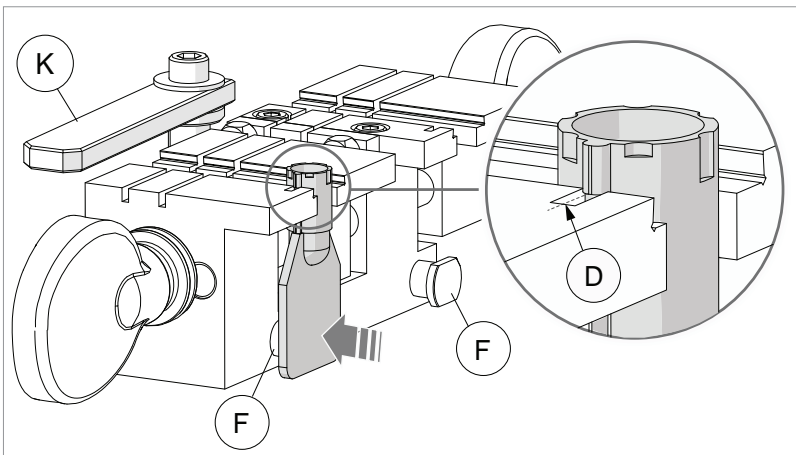
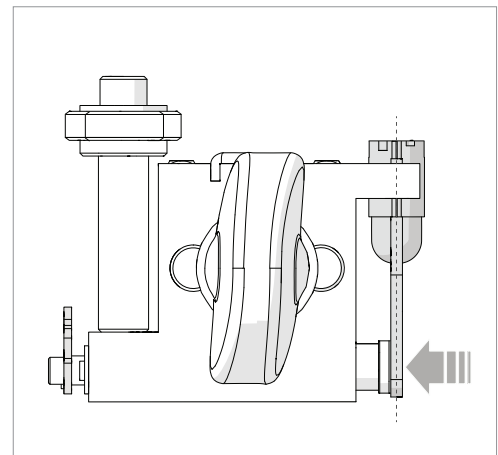
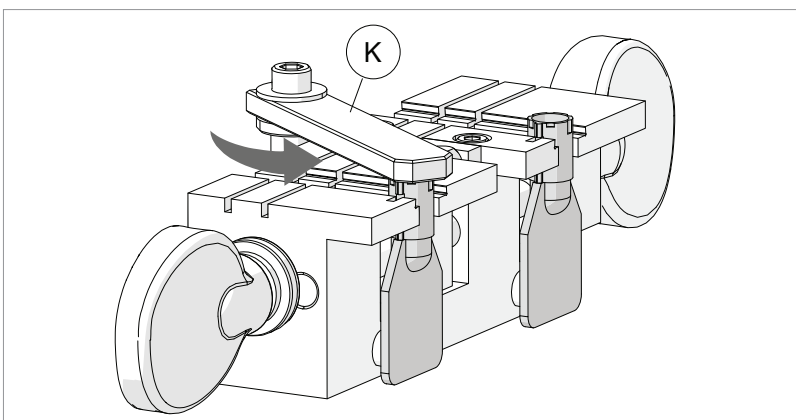
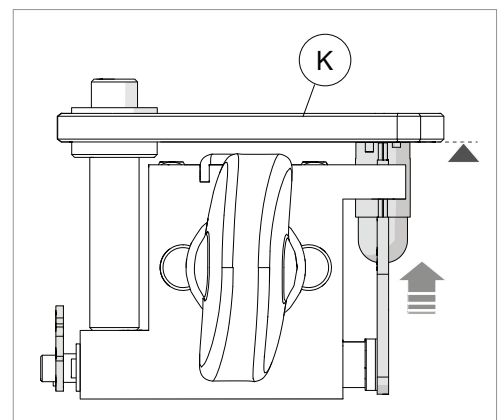

Fig. 34
Fig. 35
Fig. 36
Fig. 37
**⚠ Check that the motor start switch (Q) is OFF.**
- align the key stop with the jaw notch (D) (Fig. 34).
- maintain alignment by holding the key head up against the positioning device (F) (Fig. 35).
- use the knob (E) or (E1) to lightly secure the key.
- take the aligning bar (K) over the key (Fig. 36). Raise the key until it is up against the bar (Fig. 37).
- secure the key with the knob (E) or (E1).
- 3) When both keys are in position, take the bar (K) to the idle position (Fig. 34).
- 5) Enable the tracer point spring function loosening nut (O).
- 6) Turn on the machine with the master switch (P).
- 7) Grip the levers (C) and (J) and turn on switch (Q) to start the motor.
- 8) Hold the carriage with the left-hand lever (C), lower the vertical carriage with the right-hand lever (J) until the tracer point centres on one of the cuts in the key and continue to lower (using the tracer point spring function) to reach cutting depth.
- 9) Move the lever (C) slightly to complete each single cut.